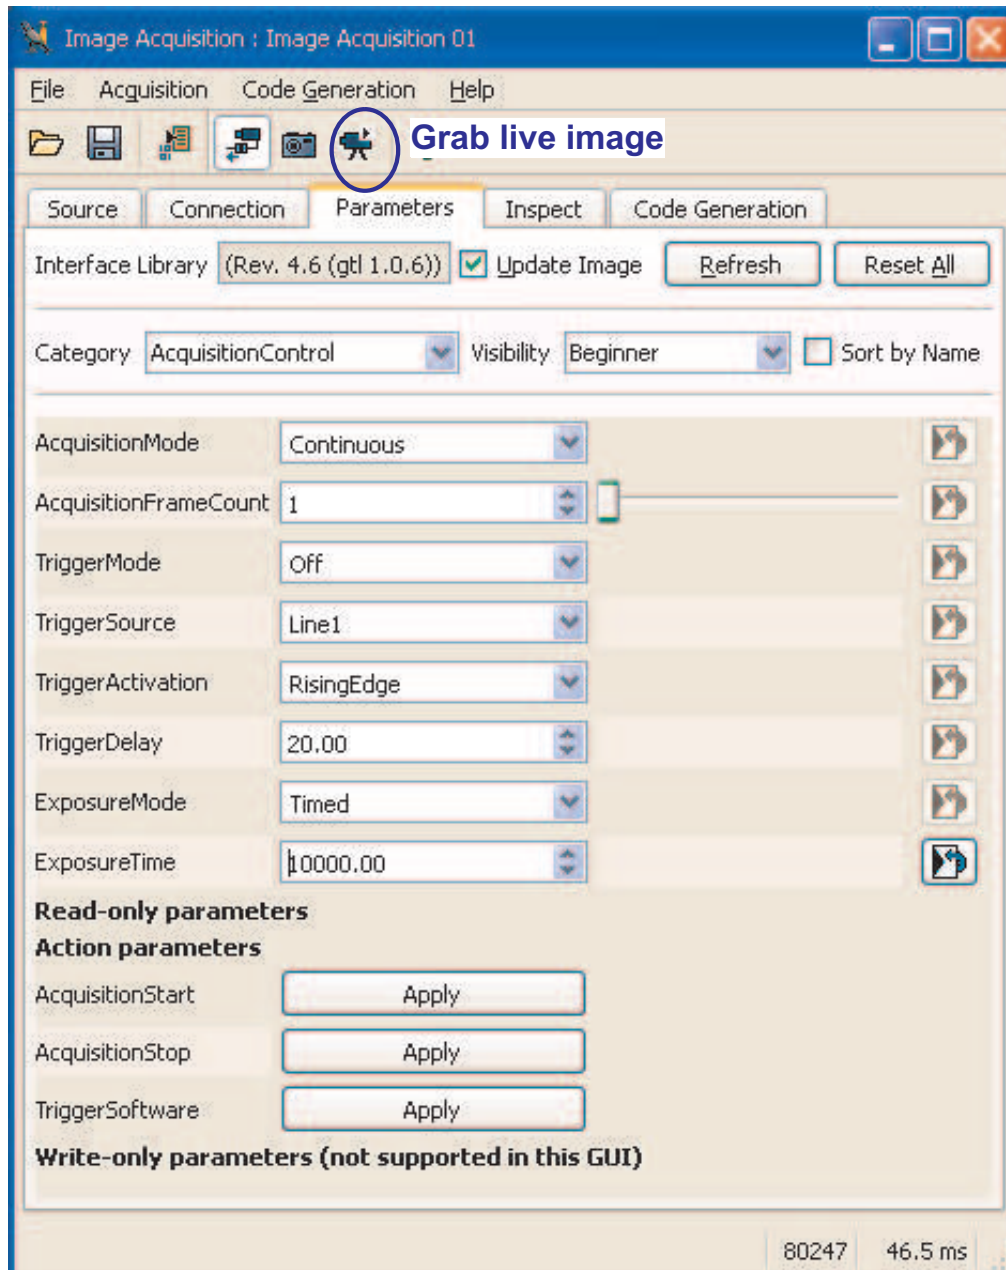

Figure 6.6: Storage Layout (bits)
- To modify parameters select the Parameters tab. Often it is more convenient to filter the parameters by category. E.g. to modify the Exposure Time, the display can be filtered by selecting AcquisitionControl in the Category drop-down list (see Fig. 6.6). The exposure time can be set by changing the ExposureTime value. The value is sent to the camera after pressing Enter on the parameter value.
- To grab a live image click on the video camera symbol (see Fig. 6.6).